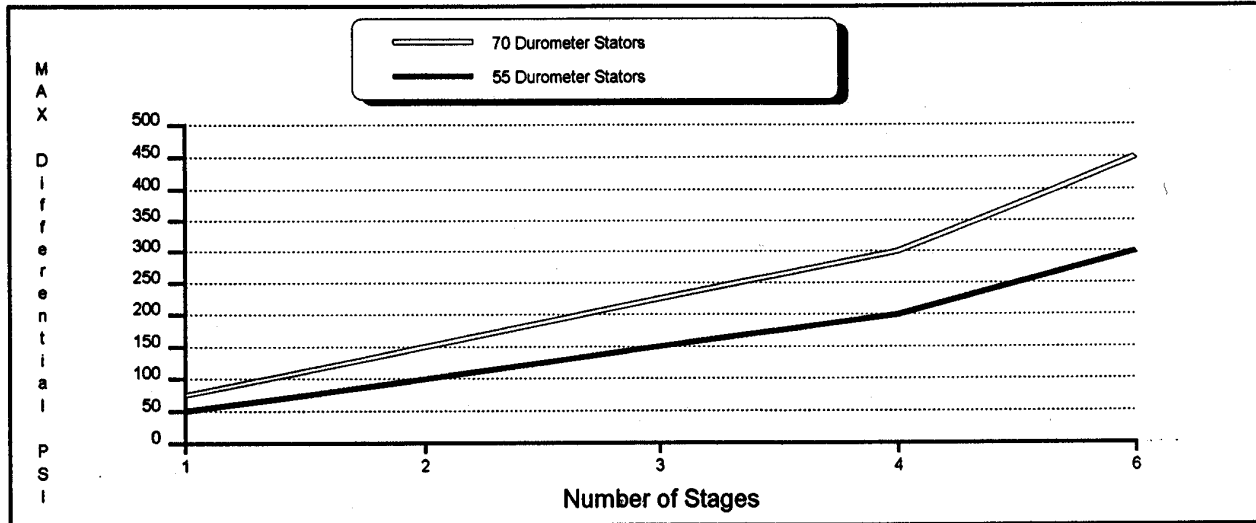

Fig. 3: Maximum Differential Pressure
Fig. 3 shows the maximum allowable differential pressure (the amount of pressure difference between the inlet and discharge of the pump) for several durometer stators and stages of pump. These values are maximum allowables and are not recommended for every application. Abrasive fluids should not be pumped at these maximum values due to the shortened life of the rotor and stator that will occur. Refer to Roper's progressing cavity pump technical literature for added information on suggested pressure limits for pumping abrasive products. Seventy (70) durometer (Shore A scale) stators include buna n (code L), EPDM (code C) and fluoroelastomer (code V). Fifty five (55) durometer stators include natural rubber (code M) and a special soft durometer buna n (code L1).